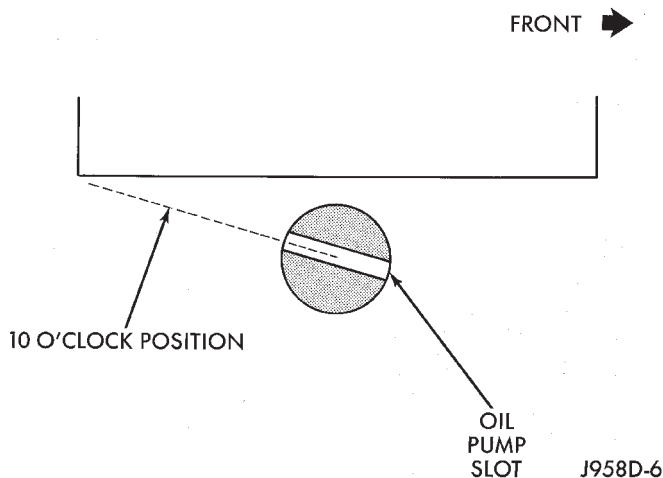
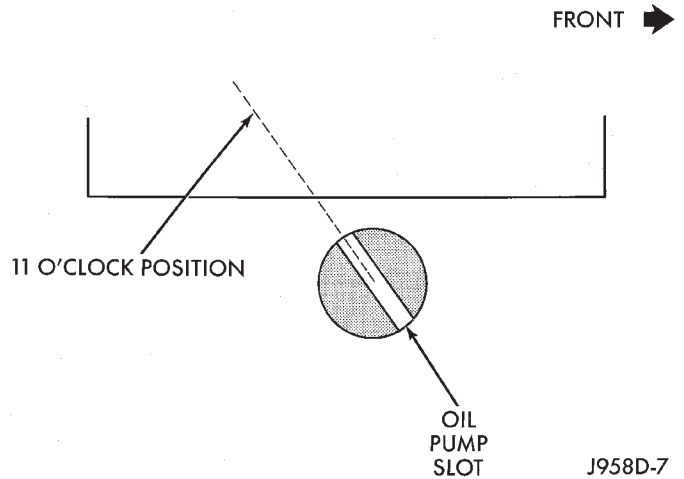

Fig. 33 Slot At 10 O'clock Position—2.5L Engine
Fig. 34 Slot At 11 O'clock Position—4.0L Engine
(14) **2.5L 4-Cylinder Engine:** Observe slot in oil pump gear through hole on side of engine. It should be slightly before (counterclockwise of) 10 o'clock position (Fig. 33).
(15) **4.0L 6-Cylinder Engine:** Observe slot in oil pump gear through hole on side of engine. It should be slightly before (counterclockwise of) 11 o'clock position (Fig. 34).
(1) If engine crankshaft has been rotated after distributor removal, cylinder number 1 must be returned to its proper firing stroke. Refer to previous REMOVAL Step 5 and Step 6. These steps must be done before installing distributor.
(2) Check position of slot on oil pump gear. On the 2.5L engine, it should be just slightly before (counterclockwise of) 10 o'clock position (Fig. 33). On the 4.0L engine, it should be just slightly before (counterclockwise of) 11 o'clock position (Fig. 34). If not, place a flat blade screwdriver into oil pump gear and rotate it into proper position.